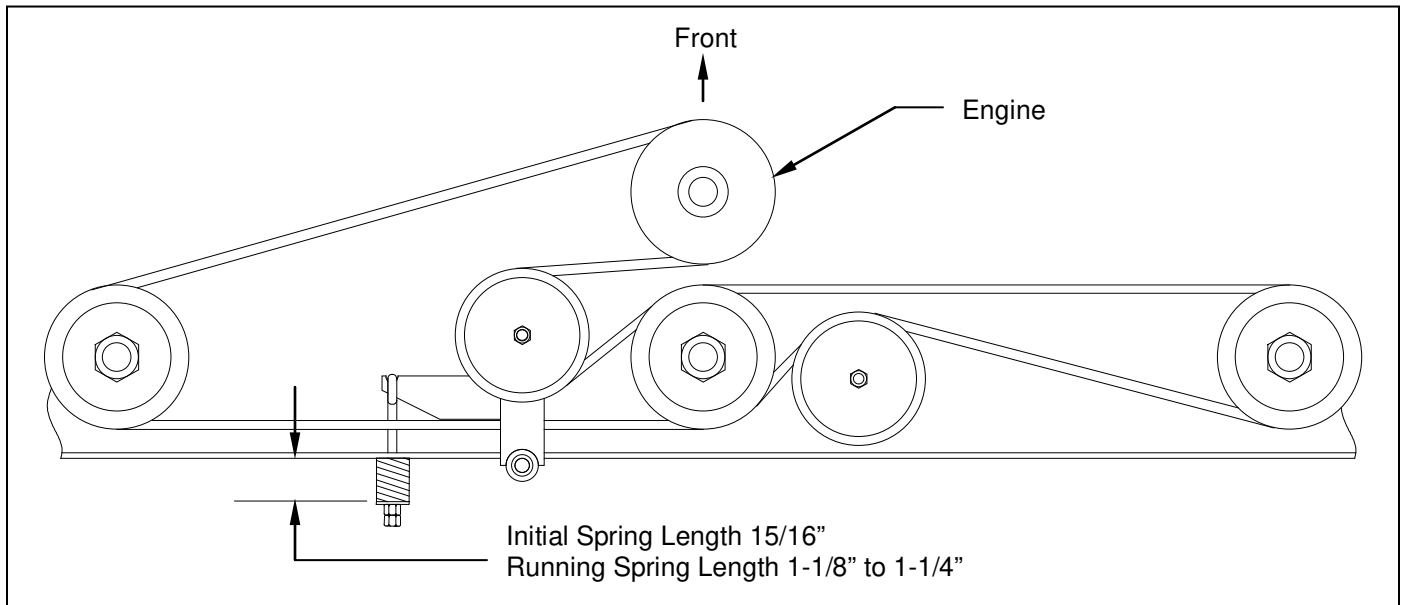

Figure 9: Belt Pattern and Spring Adjustment
G. DRIVE BELT REMOVAL AND TENSION (See Figure 9)